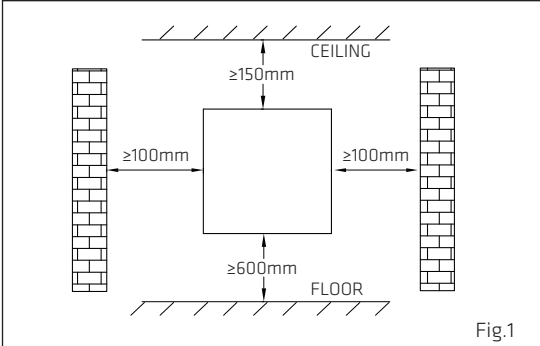

Fig.1
1. Choose a suitable location to install the heater. Observe the minimum safety distance. Before drilling, check that the power cord will reach a socket-outlet from the position you have chosen. (Fig 1)